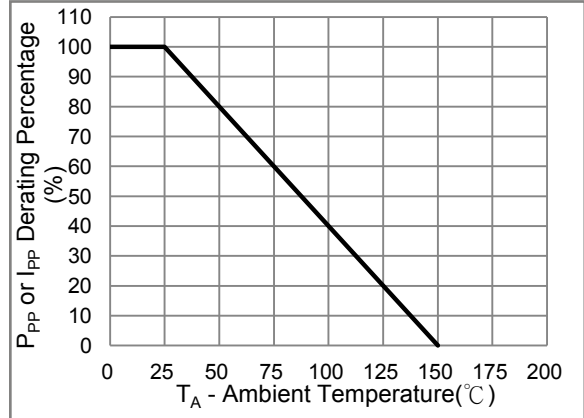
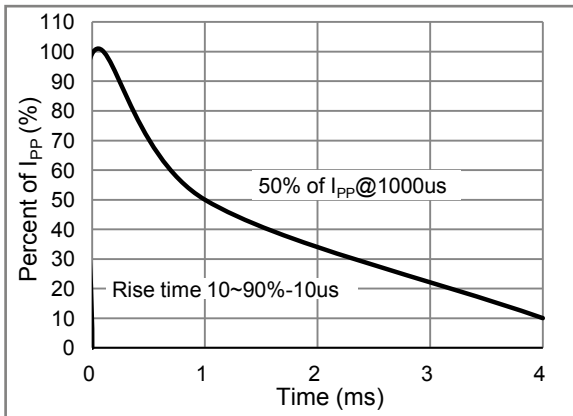

Fig.2 Derating Curve
Fig.3 10/1000μs Pulse Waveform
1. Non-repetitive current pulse, per Fig.3 and derated above T_A = 25°C per Fig. 2.